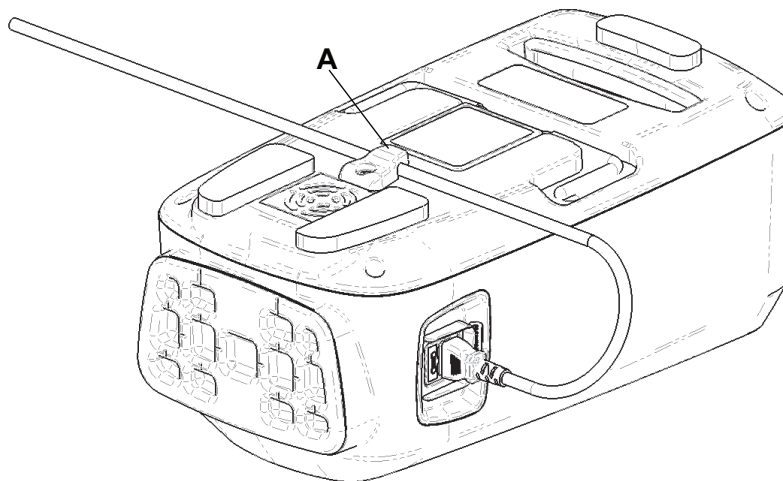

Figure 5 – Cord retention flex grip
3. Insert the power cord under the power cord retention flex grip (A) (Figure 5).